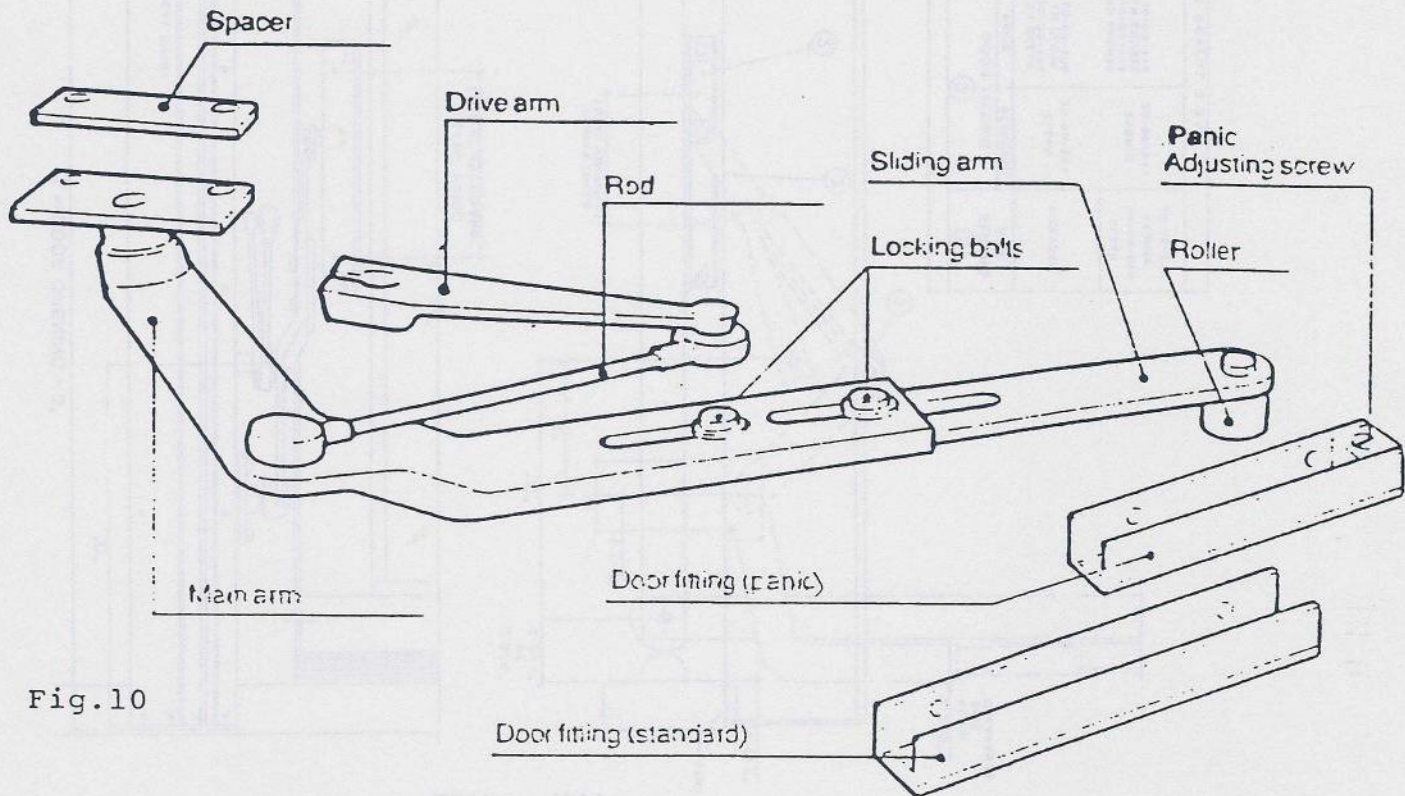

Fig.10
9. If the panic door fitting with requirements on panic breakout is installed, the panic force is to be adjusted to a suitable value. The adjusting screw is marked in fig.10, page 10. If panic door fitting is installed without requirements on panic breakout, the adjusting screw is to be screwed tight.